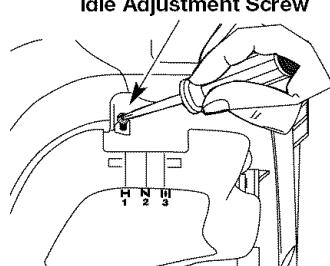

Fig. 33
The idle speed of the engine is adjustable. An idle adjustment screw is between the air filter cover and the engine starter housing (Fig. 33).
2. Move the throttle control to the idle position (idle) and let the engine idle. If the engine stops, insert a small phillips screwdriver in between the Air Filter Cover and the Engine Cover (Fig. 33). Turn the idle speed screw in, clockwise, 1/8 of a turn at a time (as needed) until the engine idles smoothly.